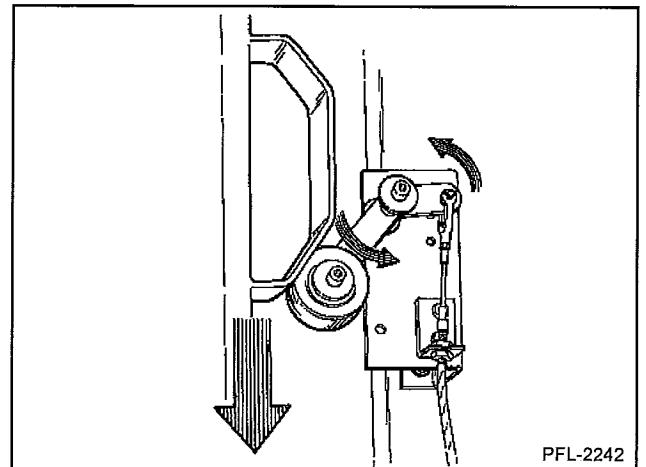

Figure 8
2. At the top and bottom levels, the roller arm assembly should be oriented so the cam hits the roller wheel arm in the pivot direction. See Figure 8.